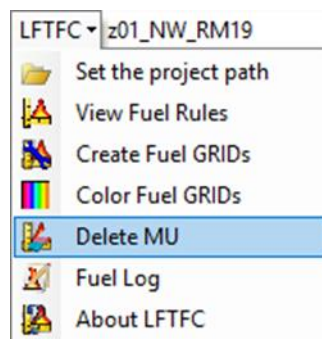

Figure 7-35. Select FUEL MU Delete from the LFTFC drop-down menu.
- Click **FUEL MU Delete** on the LFTFC drop-down menu to delete selected Management Units (Figure 7-35).